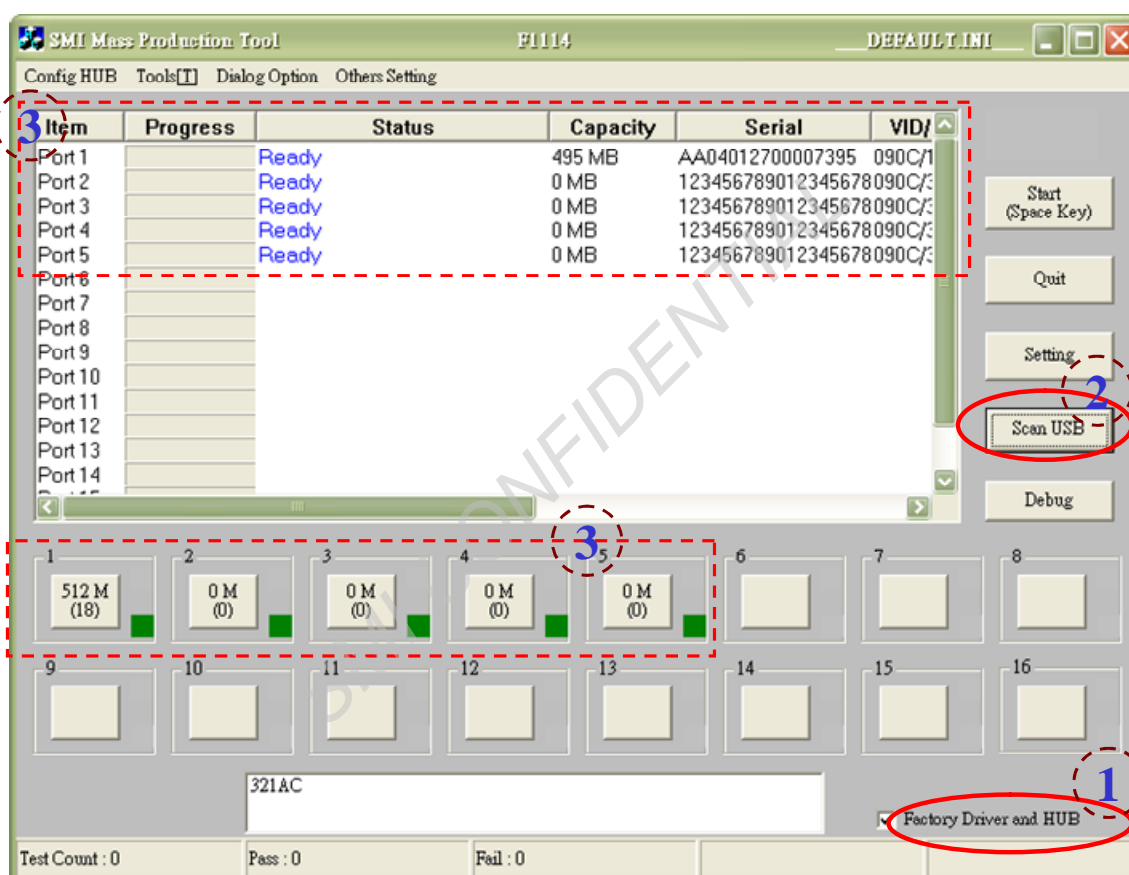

Fig. 10 The result of 「Scan USB」 using 「Factory Driver」
- Step 2、Because test program using the specific driver, so that the 「Factory Driver」 must be selected, and press the 「Scan USB」 for device detect, the button will show the green icon if plugged USB device and configured with 「Config HUB」 function. Otherwise are not changed, the Fig. 10 presents the sub-steps for upper process and result.